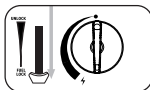
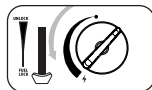

Fig. 3
Fig. 4
3. Press the cartridge lever (6) down (fig. 3) and close the cartridge cover.
4. If you hear a "hissing" noise, the cartridge has not been correctly fitted. Do not attempt to ignite the appliance but move lever (6) to the "UNLOCK" position and repeat step 1-4.
5. Turn the knob (8) fully to the ignition position until it clicks (fig. 4). Repeat this action until burner ignites.